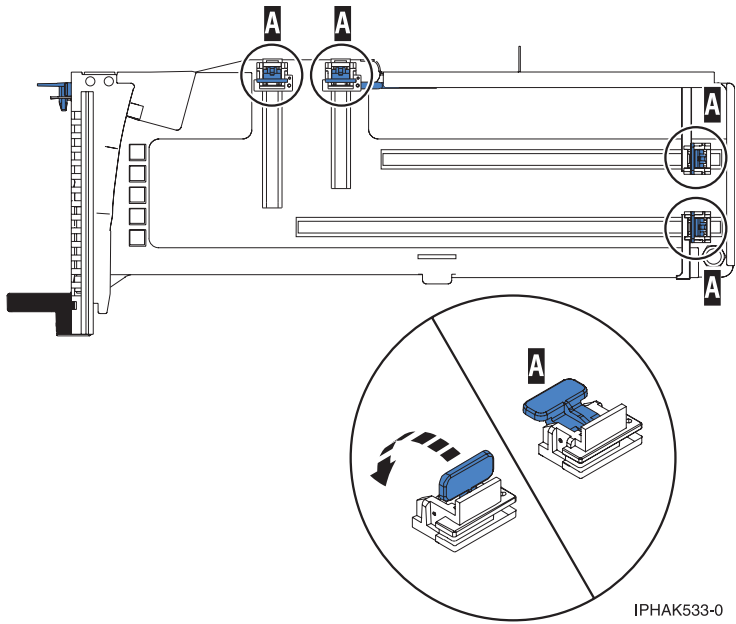

Figure 142. Adapter retainers
- b. Ensure that all of the adapter retainers (A) have been pushed out to the edges of the cassette to allow the placement of the adapter. See Figure 142 on page 166.